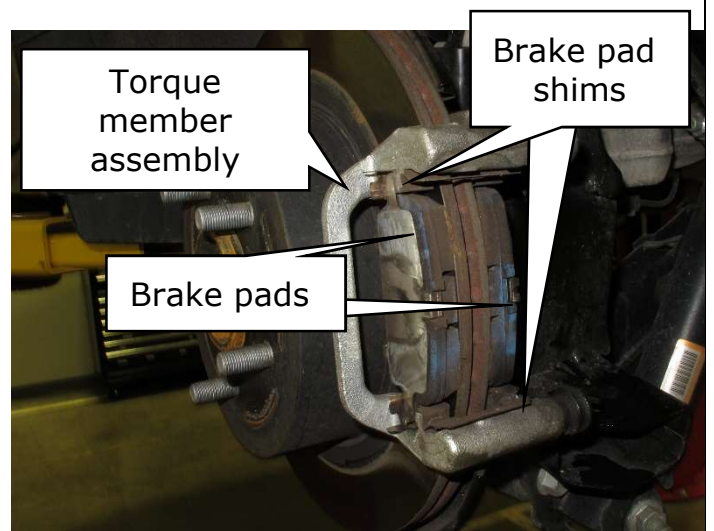

Figure 8
8. Remove the brake pads from the torque member assembly. (Figure 8)